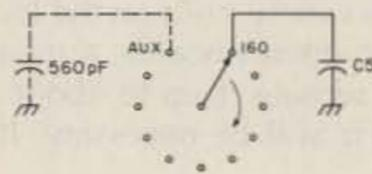

Fig. 4. S2A.
6) S2A through D are located in the final compartment. Sections A and B are on opposite sides of the switch wafer located nearest the front, while sections C and D are on the last wafer, closest to the rear. Add a 560-pF capacitor between the AUX lug on S2A and ground. (See Figs. 4 and 5.)